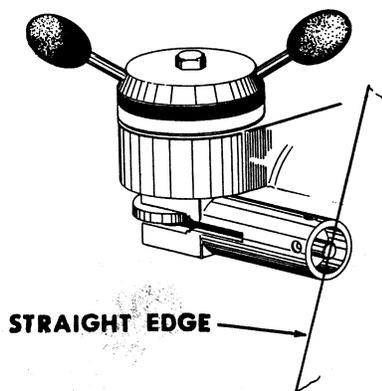

FIGURE 26
4. The end of rod (G) must be flush with face of housing (F) – use a straightedge to check as shown in Figure 26.